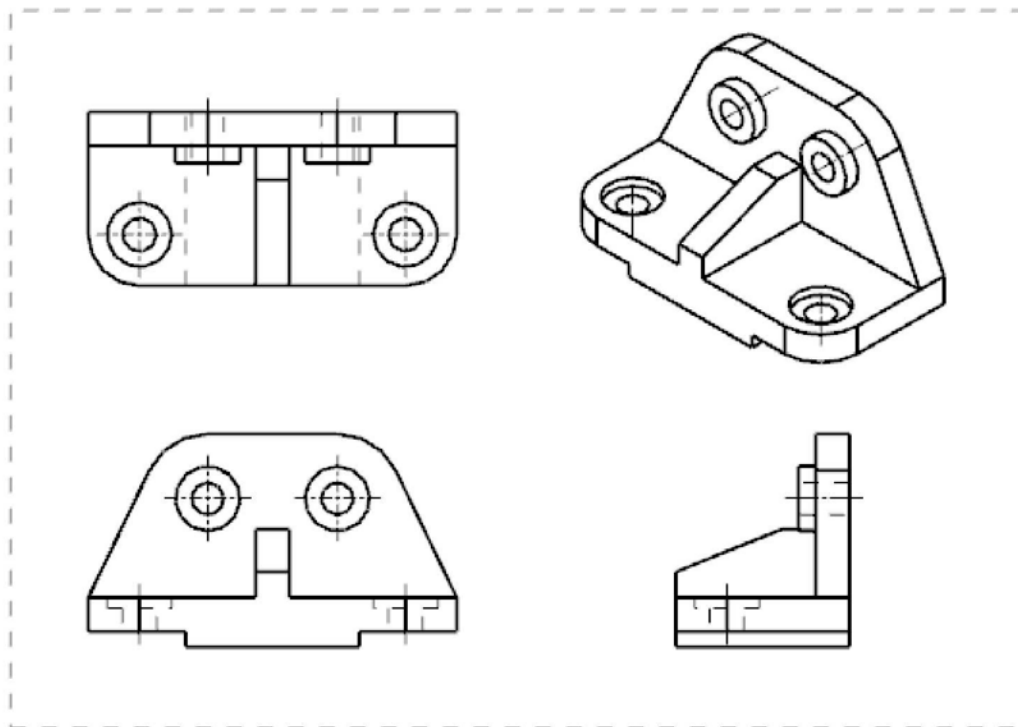

Figure 12-64 The drawing sheet after generating the drawing views of the model
- b. Generate the drawing views of the model, refer to Figure 12-64.
12. Choose the **OK** button to exit the **Settings** dialog box; the hidden lines are not displayed in the drawing. Now, hide the borders of the views. The drawing sheet after generating the required drawing views is shown in Figure 12-64.